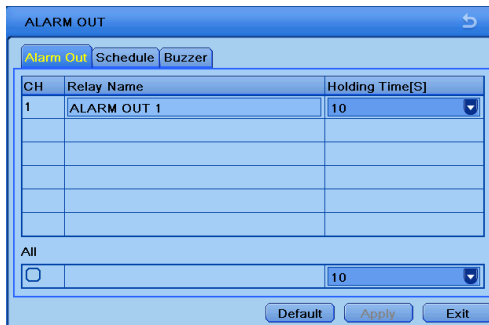

Fig 4-23 Alarm Configuration-Alarm Out
- ① Go to Main Menu → Setup → Alarm → Alarm Out. Refer to Fig 4-23.